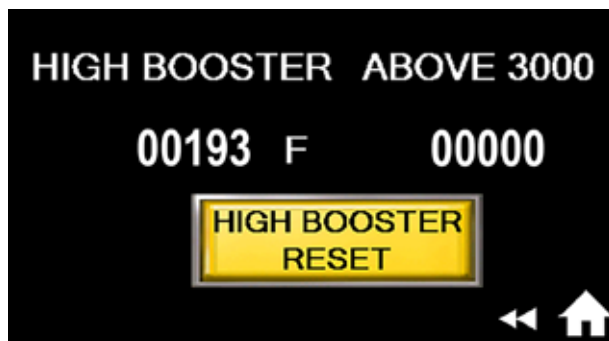

Fig. 69 - High booster menu
1. Press the High Booster button, (Fig. 69).